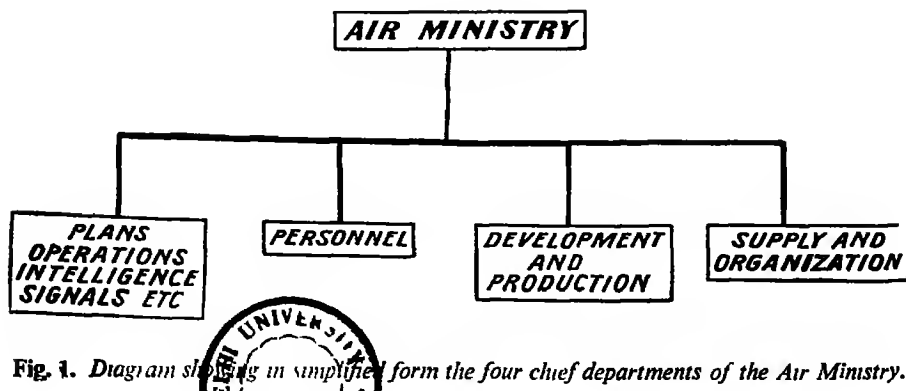

Fig. 1. Diagram showing in simplified form the four chief departments of the Air Ministry.
Four of the departments at the Air Ministry (shown diagrammatically in Fig. 1) are those dealing with (1) Plans, Operations, Intelligence, Signals, etc., (2) Personnel, (3) Development and Production, and (4) Supply and Organization. The plans and operations department is principally for co-ordinating the work actually by the Air Force, and for putting